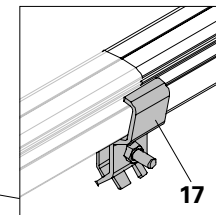

Fig. A3.02a
4. Secure Keder Connector (17) on the Eave Rail – 2x below. (Fig. A3.02a)